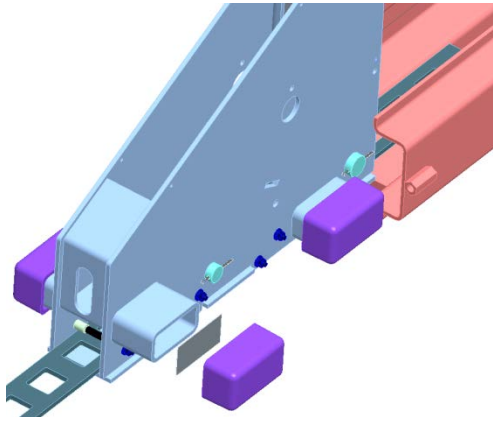

Figure 6
- Assemble slider blocks to front cross-member (See **Figure 6**) with a shim under each block (additional shims may be required)